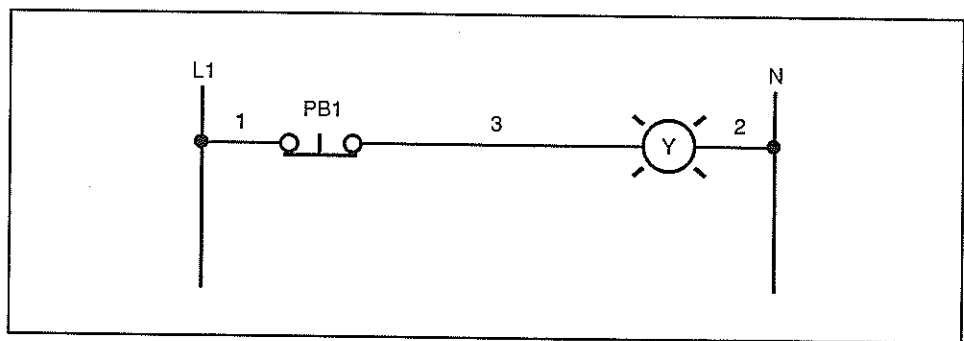

Figure 25. Ladder Diagram
- Your ladder diagram should match figure 25.